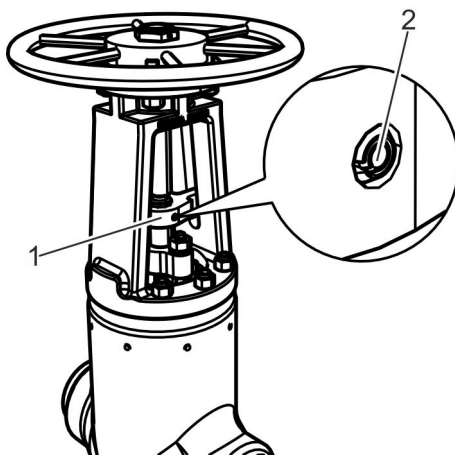
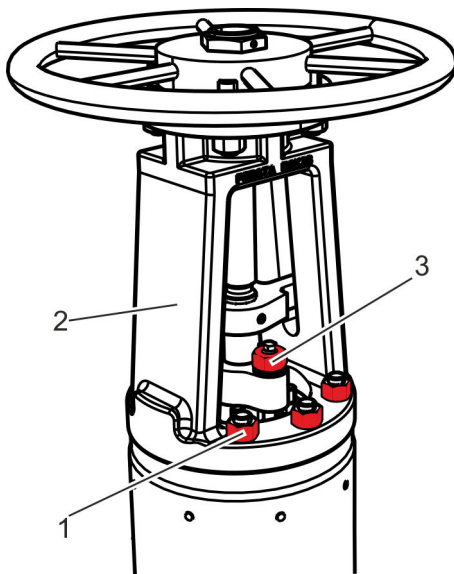

Fig. 19: Detaching the anti-twist device
Fig. 20: Removing nuts
1. ➤ If the anti-twist device is present: Loosen and remove the tension pin (Fig. 19/2) of the anti-twist device (Fig. 19/1).
Loosen and remove the nuts (Fig. 20/1) on the bonnet.
Loosen and remove the nuts (Fig. 20/3) including washers on the gland follower flange.
⇒ The bonnet (Fig. 20/2) lifts off of the body.
Lift off the bonnet (Fig. 20/2) and if applicable the anti-twist device (Fig. 19/1) upwards.